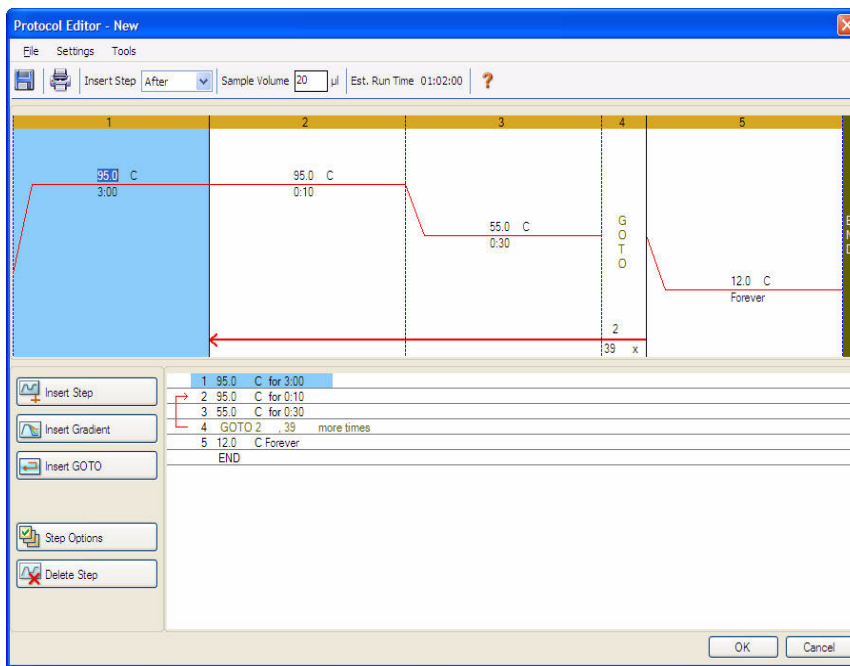

Figure 97. Creating or editing a protocol.
4. Select **OK** to save the protocol (Figure 97).